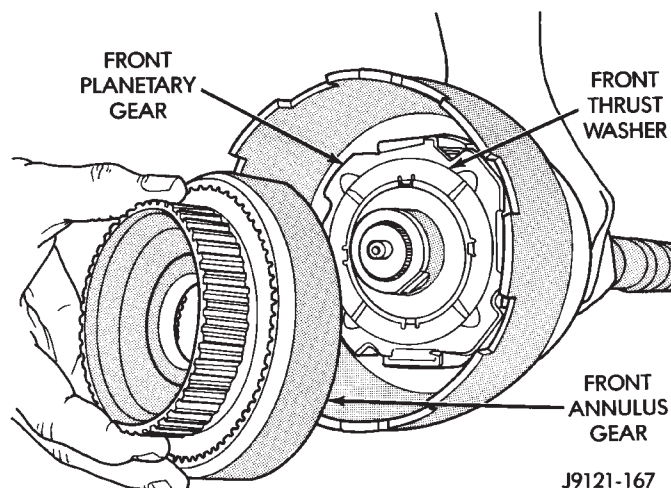
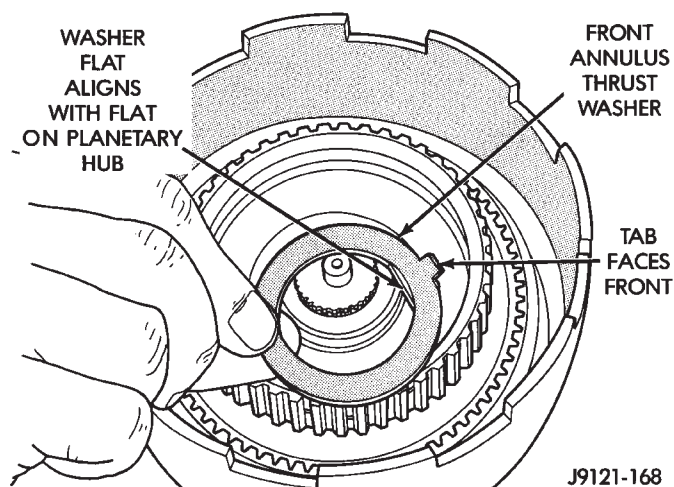

Fig. 81 Installing Front Planetary And Annulus Gears
Fig. 82 Installing Front Annulus Thrust Washer
(17) Install front planetary gear on intermediate shaft and in driving shell (Fig. 81).
(18) Install front thrust washer on front planetary gear (Fig. 81). Use enough petroleum jelly to hold washer in place on gear and be sure washer tabs are seated.
(19) Assemble front annulus gear and support. Be sure support snap ring is seated.
(20) Install front annulus thrust washer (Fig. 82). Align flat on washer with flat on planetary hub. Also be sure washer tab is facing forward.